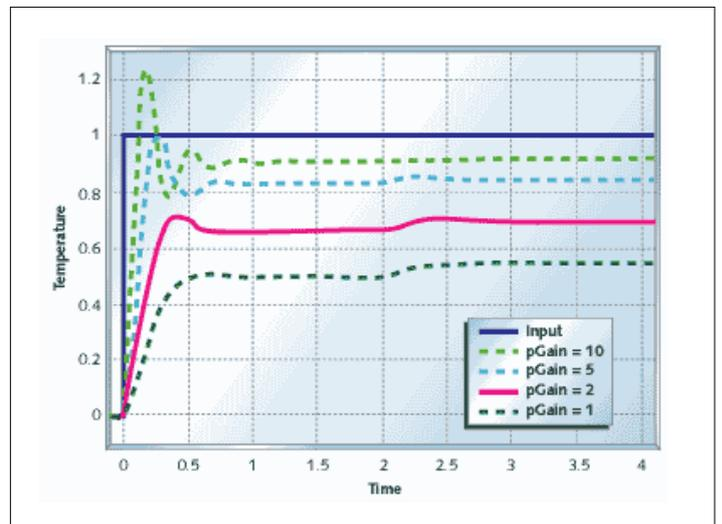
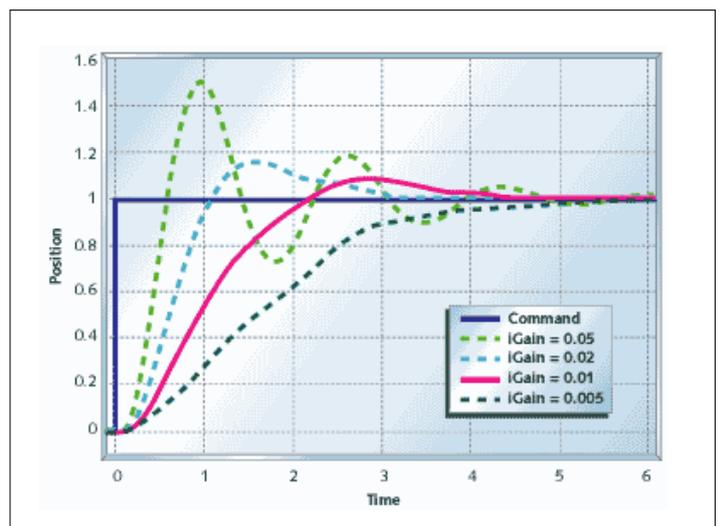
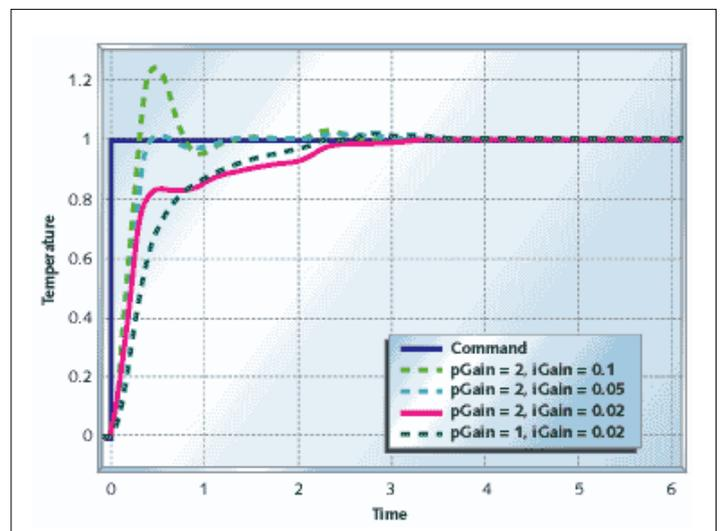

Figure 10
Figure 12
Figure 14
**Figure 10** shows what happens when you use pure proportional feedback with the temperature controller. I'm showing the system response with a disturbance due to a change in ambient temperature at  $t = 2s$ . Even without the disturbance you can see that proportional control doesn't get the temperature to the desired setting. Increasing the gain helps, but even with  $k_p = 10$  the output is still below target, and you are starting to see a strong overshoot that continues to travel back and forth (this is called ringing).
**Figure 12** shows the temperature control system with pure integral control. This system takes a lot longer to settle out than the same plant with proportional control (see **Figure 10**), but notice that when it does settle out, it settles out to the target value—even with the disturbance added in. If your problem at hand doesn't require fast settling, this might be a workable system.
**Figure 14** shows what happens when you use PI control on the heater system. The heater still settles out to the exact target temperature, as with pure integral control (see **Figure 12**), but with PI control, it settles out two to three times faster. This figure shows operation pretty close to the limit of the speed attainable using PI control with this plant.